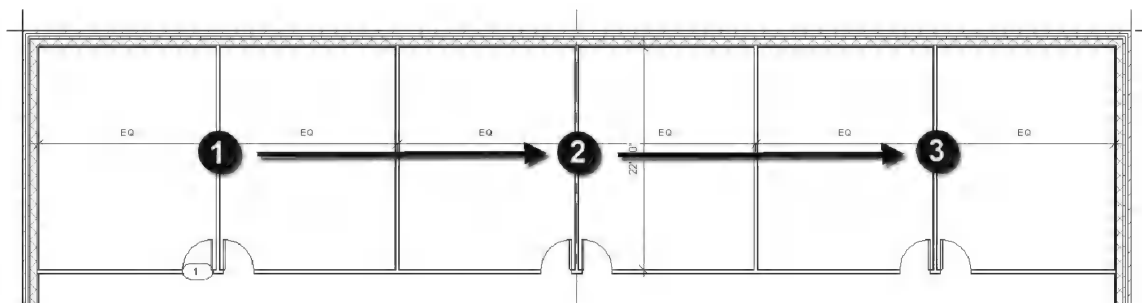

FIGURE 2-2.9 Numbers indicate pick-points listed in step #17
- Second pick*: midpoint/centerline of wall shown in Figure 2-2.9;
- Third pick*: midpoint/centerline of wall shown in Figure 2-2.9.